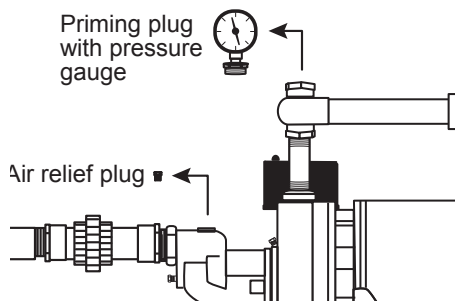

Figure 13 - Remove priming plug
1. Remove the 1/2 in. priming plug with pressure gauge and air relief plug. (Fig. 13)